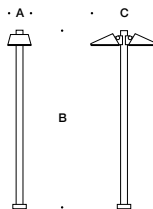

Figure 1:
2. Assemble anchorage kit. Unscrew the (3) hex bolts from the female couplers. Remove each hex bolt and washer. Align each anchor bolt with the hole in the template. Attach each anchor bolt to the template by replacing the washer and hex bolt and tightening. Do not remove nuts and washers from bottom of anchor bolt; this provides the pullout force. See Figure 1.
5. Remove (3) hex bolts and washers once anchorage is set. Set aside for use during luminaire installation.